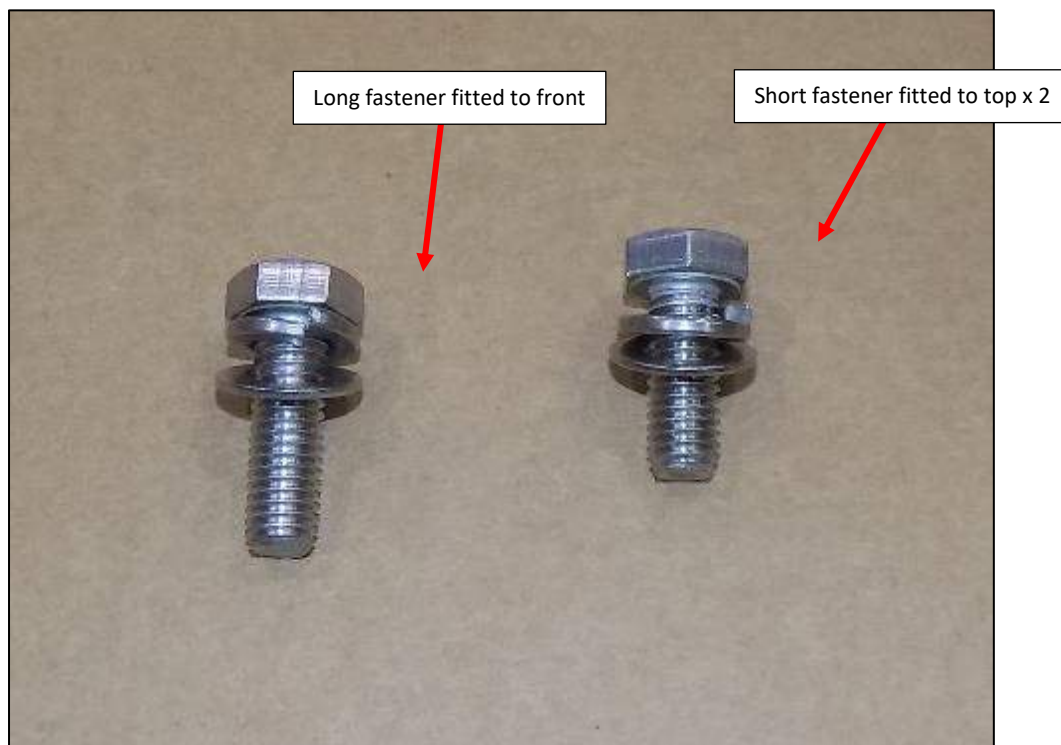

Figure 33
21. **Note** the different lengths of the park-brake shroud fasteners (Figure 33). The longer fastener secures the bottom of the brake shroud and spacer, the two shorter bolts secure the top of the shroud.